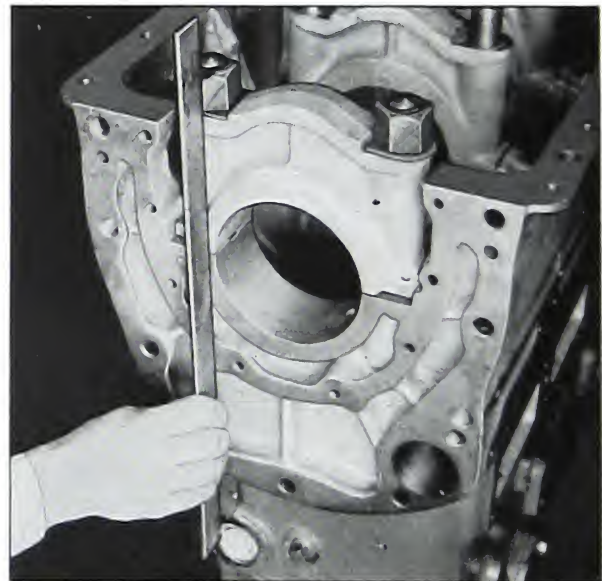

Fig. 2-28. Gauging alignment
3. With the crankshaft and bearings out, assemble the No. 7 bearing cap on the studs. Pull the stud nuts down slightly against the main bearing nut lock plates so that the cap can be shifted. Using a straight edge, align the rear face of the cap on both sides with the machined surface of block where flywheel housing is bolted to the block as shown in Fig. 2-28. In some cases it may be necessary to scrape stud holes of cap to obtain correct alignment. If scraping is necessary, this should be done at the point where the cap pilots on the stud.